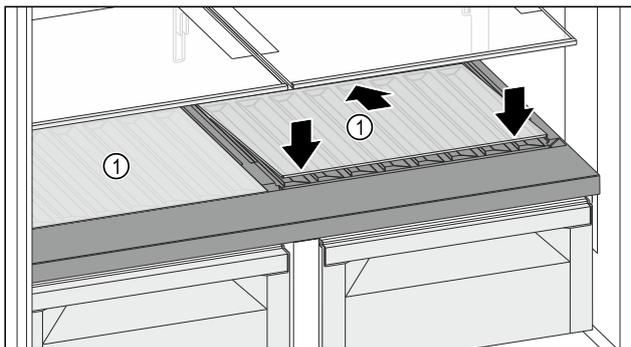

Fig. 124
- ▶ Place the glass shelf Fig. 124 (1) at an angle, sloping it downwards and backwards.
- ▶ Lower the glass shelf Fig. 124 (1) at the front.